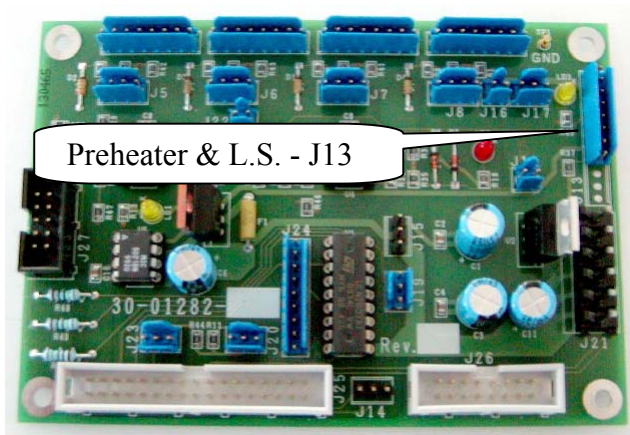

Fig. 41 Arm Interface board
7. Remove the front panel unscrewing the four anchored screws (Fig. 40) and unplug the J13 connector from the Arm Interface board (Fig. 41).